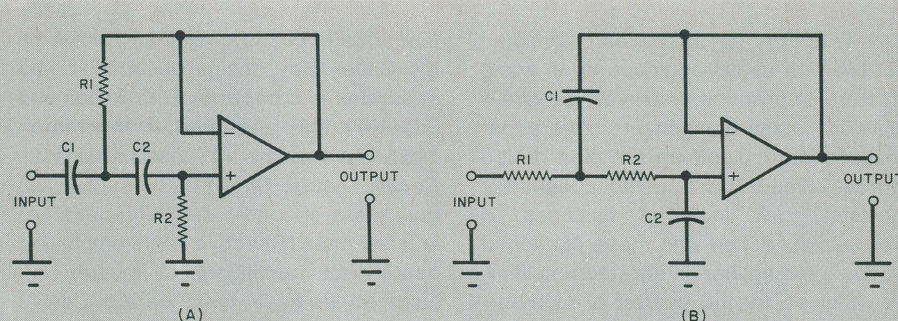

Fig. 1. Second-order high-pass (A) and low-pass (B) filters.
tion. This circuit is commonly known as the Sallen/Key design because it was described in a paper by R.P. Sallen and E.L. Key that appeared in the March 1955 issue of the *IRE Transactions on Circuit Theory*. Shown schematically in Fig. 1 are second-order, high-pass (A) and low-pass (B) active filters employing operational amplifiers. Although op amps as we know them were not available in 1955, Sallen and Key's paper is applicable to filters employing more recently developed active devices.